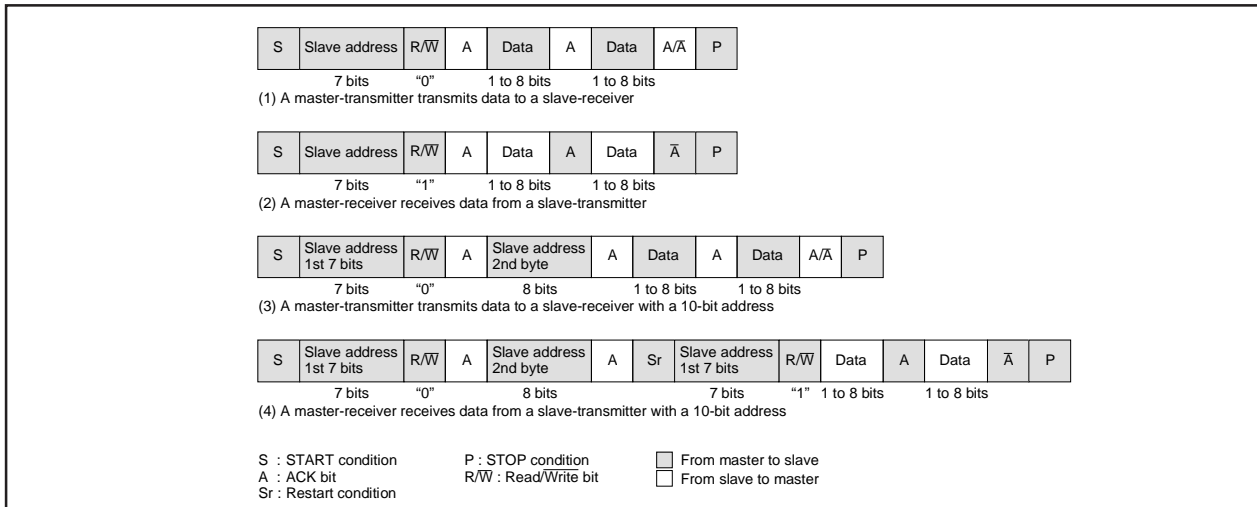

Fig. 2.11.45 Address data communication format
To meet the 7-bit addressing format, set the 10BIT SAD bit of the I²Ci control register to "0." The first 7-bit address data transmitted from the master is compared with the high-order 7-bit slave address stored in the I²Ci address register. At the time of this comparison, address comparison of the RBW bit of the I²Ci address register is not made. For the data transmission format when the 7-bit addressing format is selected, refer to Figure 2.11.45, (1) and (2).
When the first-byte address data matches the slave address, the AAS bit of the I²Ci status register is set to "1." After the second-byte address data is stored into the I²Ci data shift register, make an address comparison between the second-byte data and the slave address by software. When the address data of the 2nd bytes matches the slave address, set the RBW bit of the I²Ci address register to "1" by software. This processing can match the 7-bit slave address and R \bar{W} data, which are received after a RESTART condition is detected, with the value of the I²Ci address register. For the data transmission format when the 10-bit addressing format is selected, refer to Figure 2.11.45, (3) and (4).
(11) Example of Master Transmission